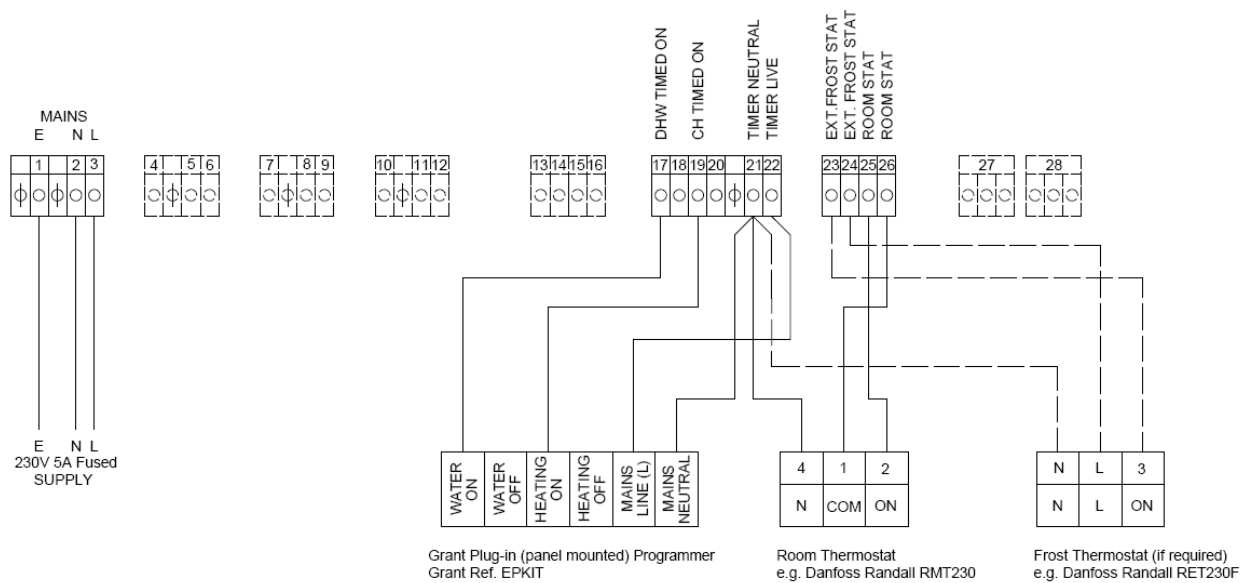

Fig.7. Connections for Grant 'Plug-in' 2-channel Programmer (EPKIT) and Room Thermostat
2. **IMPORTANT: Disconnect and remove BOTH the RED and BLACK wire links between terminals 17 & 18 and 19 & 20 on the 'TIMER' plug. Refer to Fig.7 in this supplement.**
Refer to Fig.7 in this supplement for connection diagram.